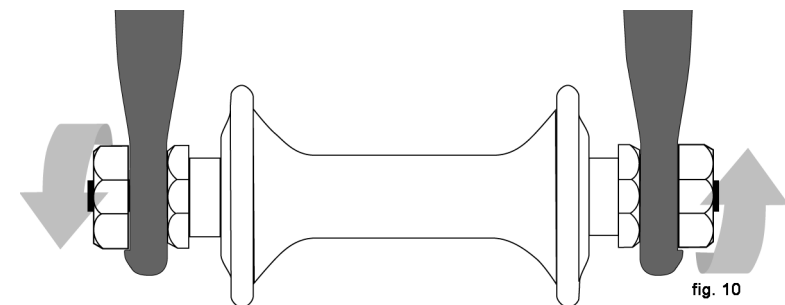

fig. 10
- Hex nuts or hex key bolts which are threaded on to or into the hub axle (**bolt-on wheel, fig. 10**)